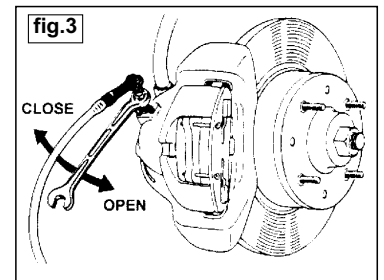

fig.3
- 3.05 Mount the black rubber pipe onto the brake nipple on the first wheel and open the nipple about 1/4 of a turn. ( See fig.3 )
- 3.09 Close the brake nipple. ( See fig.3 )